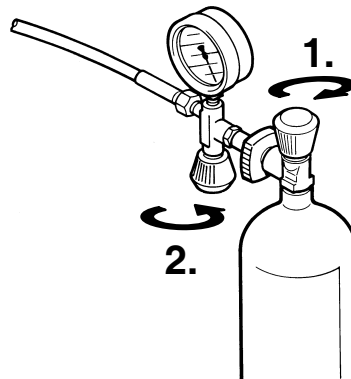

Abb. 18 Removing air bottle
- Upon reaching final bottle pressure **close bottle valve first** (1, Abb. 18), **then filling valve** by returning handle to closed position (2).